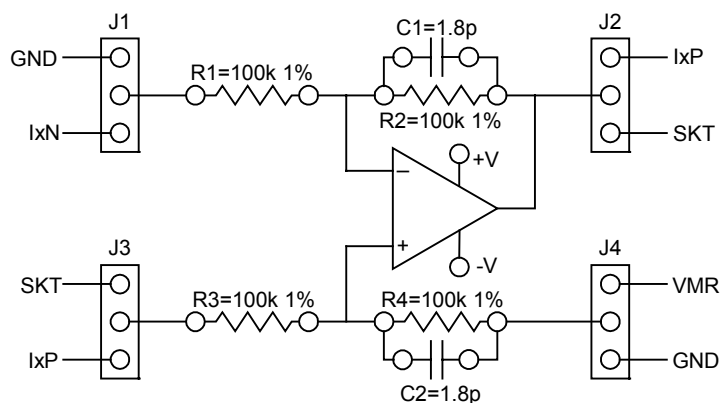
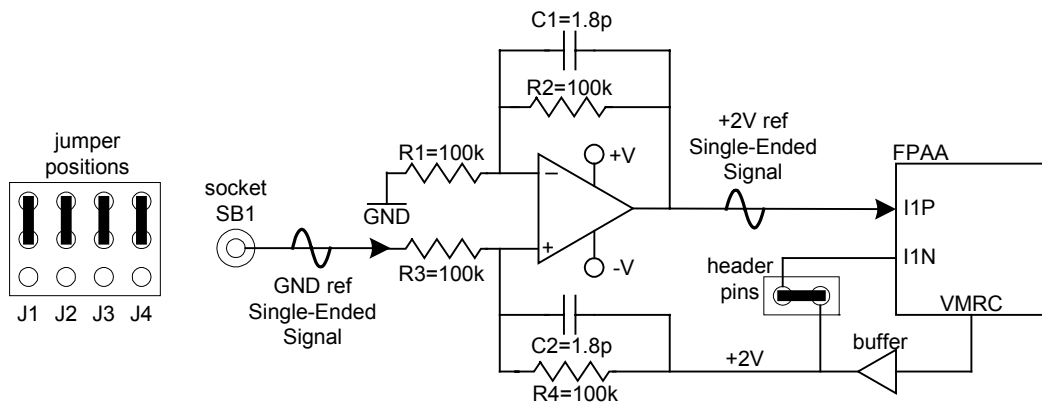
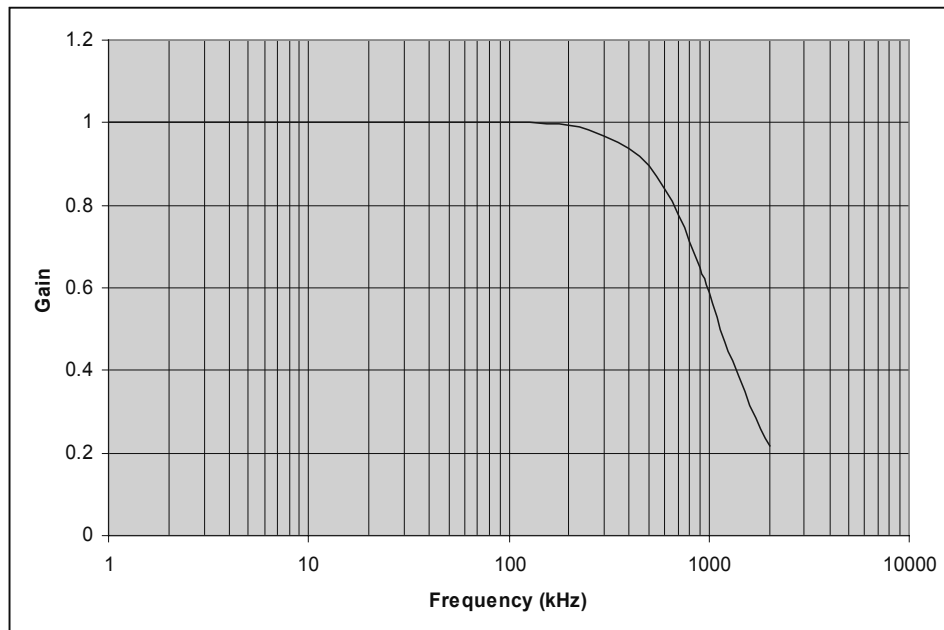

Figure 5: Analog Interface Block (#1 of 4)
Figure 6: Input Level-Shifter (block #1)
Figure 8: Frequency Response of Analog Interface Block with Default Components
There are four (4) identical analog interface blocks (figure 5), each with 4 jumpers, a low noise opamp and a set of through-hole resistors and capacitors. These 4 blocks are each connected to an analog input/output pin of the AN221E04 FPAA device. This allows all 4 blocks to be used as either an input or output interface. The 4 blocks are laid out in order up the left side of the board with block #1 at the bottom and block #4 at the top. Each block has a footprint that will take a variety of sockets including SMA and BNC. There is also a test point (TP1-4) and ground point in which the user can solder loops of wire for the connection of probes.
If the 4 jumpers are in the upper position then the block is configured as an input stage, level shifting the ground referenced single-ended input to +2V (figure 6). The negative differential input of the FPAA has been shorted to buffered VMR by placing a jumper between its header pin and VMR. The gain of this circuit can be changed by changing the values of the resistors. The gain is given by the following equation:
The analog interface block in figure 5 can also act as a low pass filter – with the corner frequency adjusted by changing the values of the 2 capacitors in figure 5. The default values for the capacitors is 1.8pF and this gives a cut-off frequency at about 1MHz – the response of the default circuit is shown in figure 8. To lower the cut-off frequency you can replace these capacitors with larger ones, the value given by the formula below:
Finally, the jumpers can be omitted from the circuit in figure 5 and the user can wire up the opamp as required. As an example, the circuit in figure 10 shows how 2 analog interface blocks have been used to make a single-ended to differential converter and level-shifter circuit. Note how block #2 has been used as a standard input level-shifter (as in figure 6) and 3 wires have been added to block #1 to make it into an inverting level-shifter for input to I2N of the FPAA.